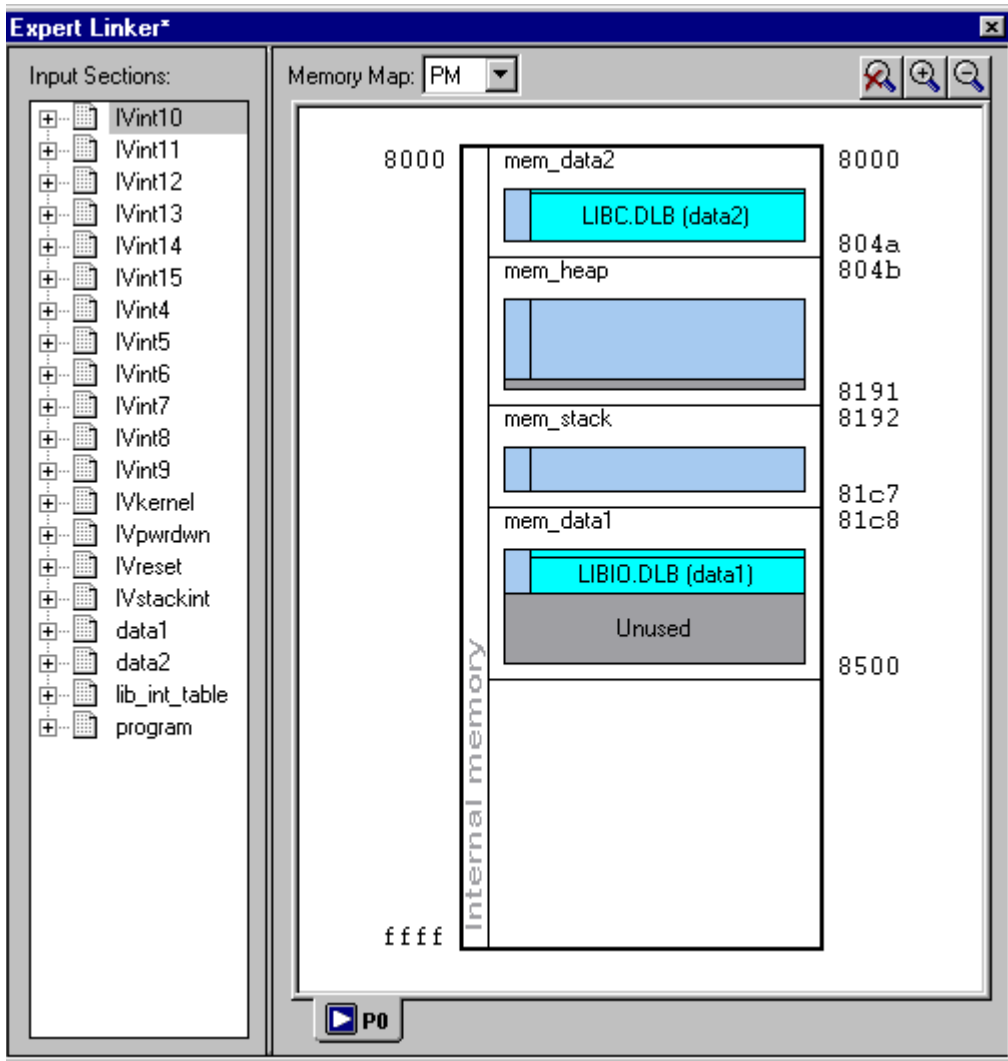

Figure 4-23. Memory Map Pane in Post-Link View
- To enable pre-link view from the **Memory Map** pane, right-click and choose **View and Mapping Strategy (Pre-Link)**. Figure 4-23 on page 4-30 illustrates a memory map before linking is performed.